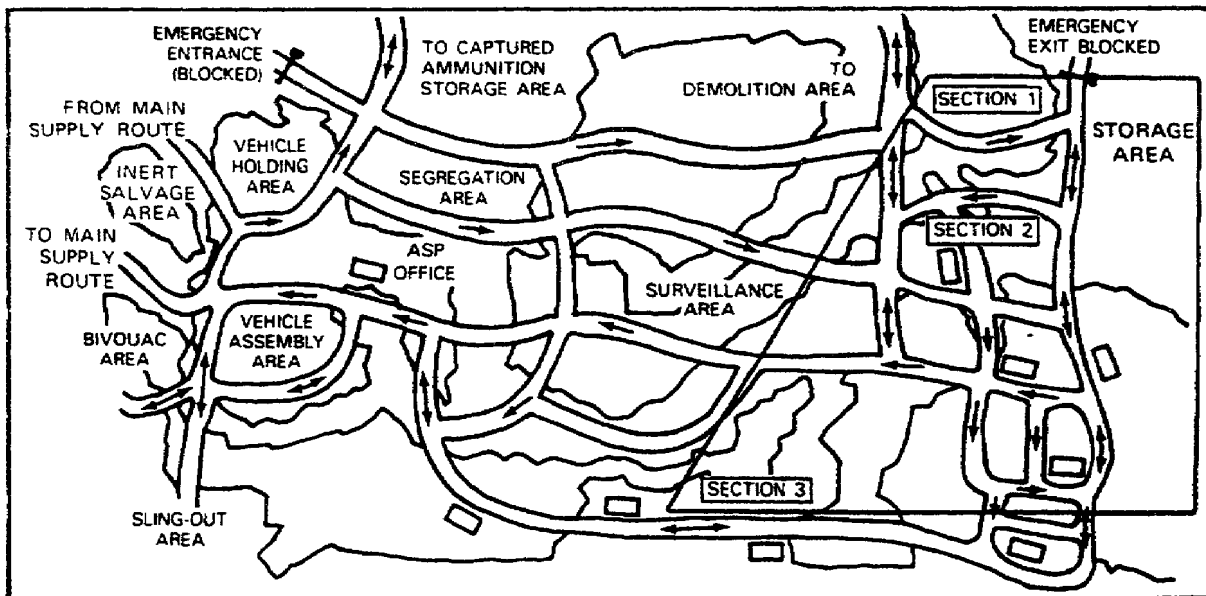

Figure 1-2. Layout of an Ammunition Supply Point.
**ASP Layout.** An ASP is laid out into several different areas to provide dispersion of stocks and to allow the receipt, issue, and inventory of ammunition in separate places at the same time. See Figure 1-2. The ideal layout shown in the illustration is not always possible. There may be personnel or equipment shortages, or the location itself may limit the size and number of areas possible. The major areas are described below.